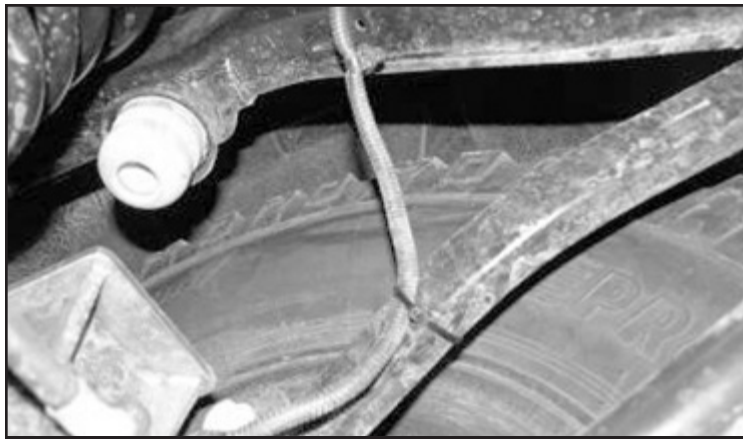

FIGURE 51 - STEP 33
33. Reconnect the factory ABS mount to the rear differential and torque to 20 ft-lbs. Route the ABS line in the stock routing and attach the line to the upper link arm with the supplied 8" zip ties (DO NOT reinsert the plastic clips into the frame). **SEE FIGURE 51**